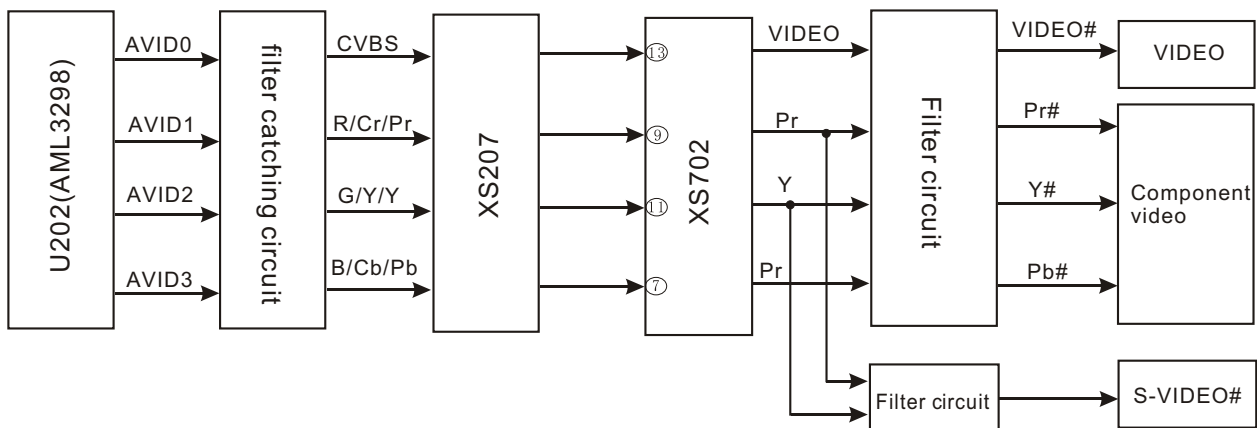

Figure 3.2.14.1 Video circuit block diagram
1. Video circuit block diagram is shown as the following figure 3.2.14.1: